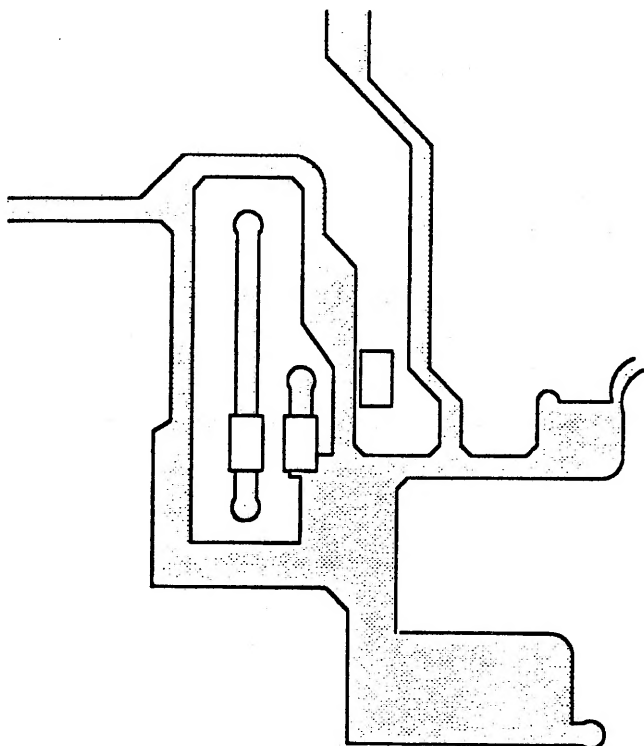

FIGURE 5
8. Locate the foil pattern area shown in Figure 5. This area is below IC11.